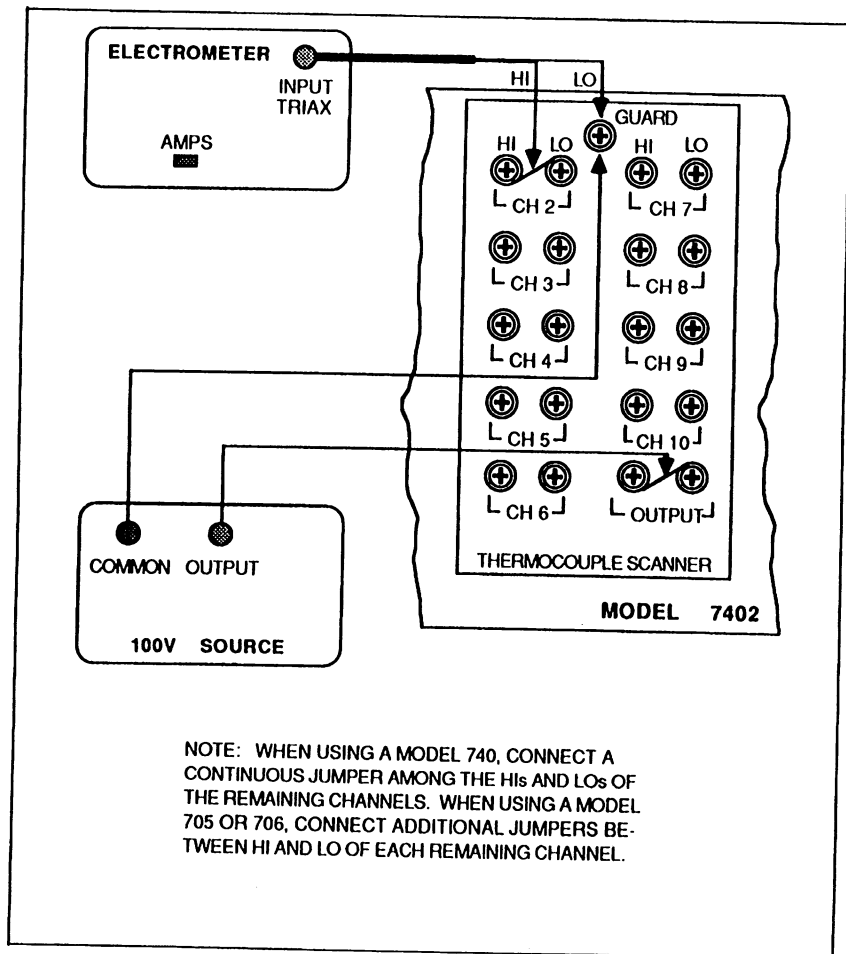

Figure 3-4. Channel Isolation
1. On the Model 7402, connect a copper jumper between the HI and LO terminals of the channel under test. Also short the output HI to LO. Set up the equipment as shown in Figure 3-4 for channel 2.